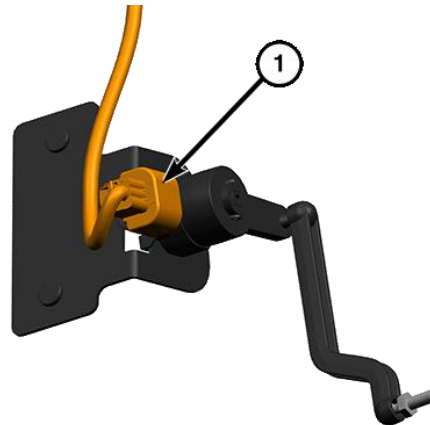

Figure 20 – Electrical Connector
25. **If equipped**, Disconnect the wire harness connector (1) from the vehicle height sensor (Figure 20).